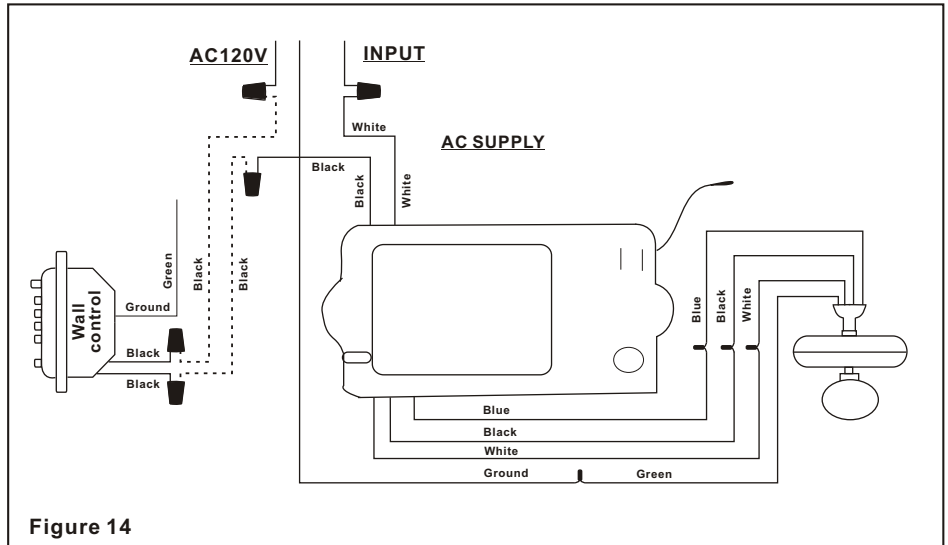

Figure 14
Step 2. Make the electrical connections as shown in (Fig. 14). If your outlet box has a ground wire (green or bare copper) connect the wall transmitter's ground wire to it; otherwise connect the wall transmitter's ground wire directly to one of the screws from the outlet box.